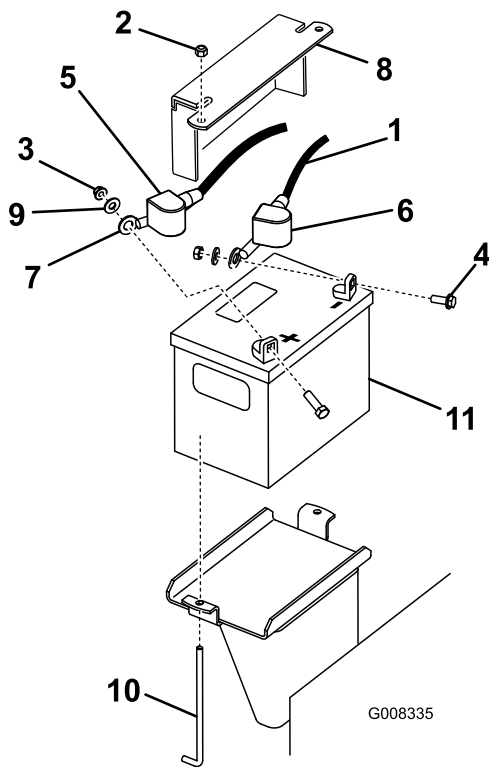

Figure 49
3. Lift the black rubber cover on the negative cable. Disconnect the negative battery cable from the negative (-) battery terminal (Figure 49).
- Slide the red terminal boot off the positive (red) battery terminal. Then remove the positive (red) battery cable (Figure 49).
- Remove the hold-down plate, J-bolts, and locknuts securing the battery (Figure 49). Remove the battery.
1. Using the fasteners previously removed, install the positive (red) battery cable to the positive (+) battery terminal (Figure 49).
3. Using the fasteners previously removed, install the negative (black) battery cable to the negative (-) battery terminal (Figure 49).
4. Secure the battery using the bar and wing nuts (Figure 49).